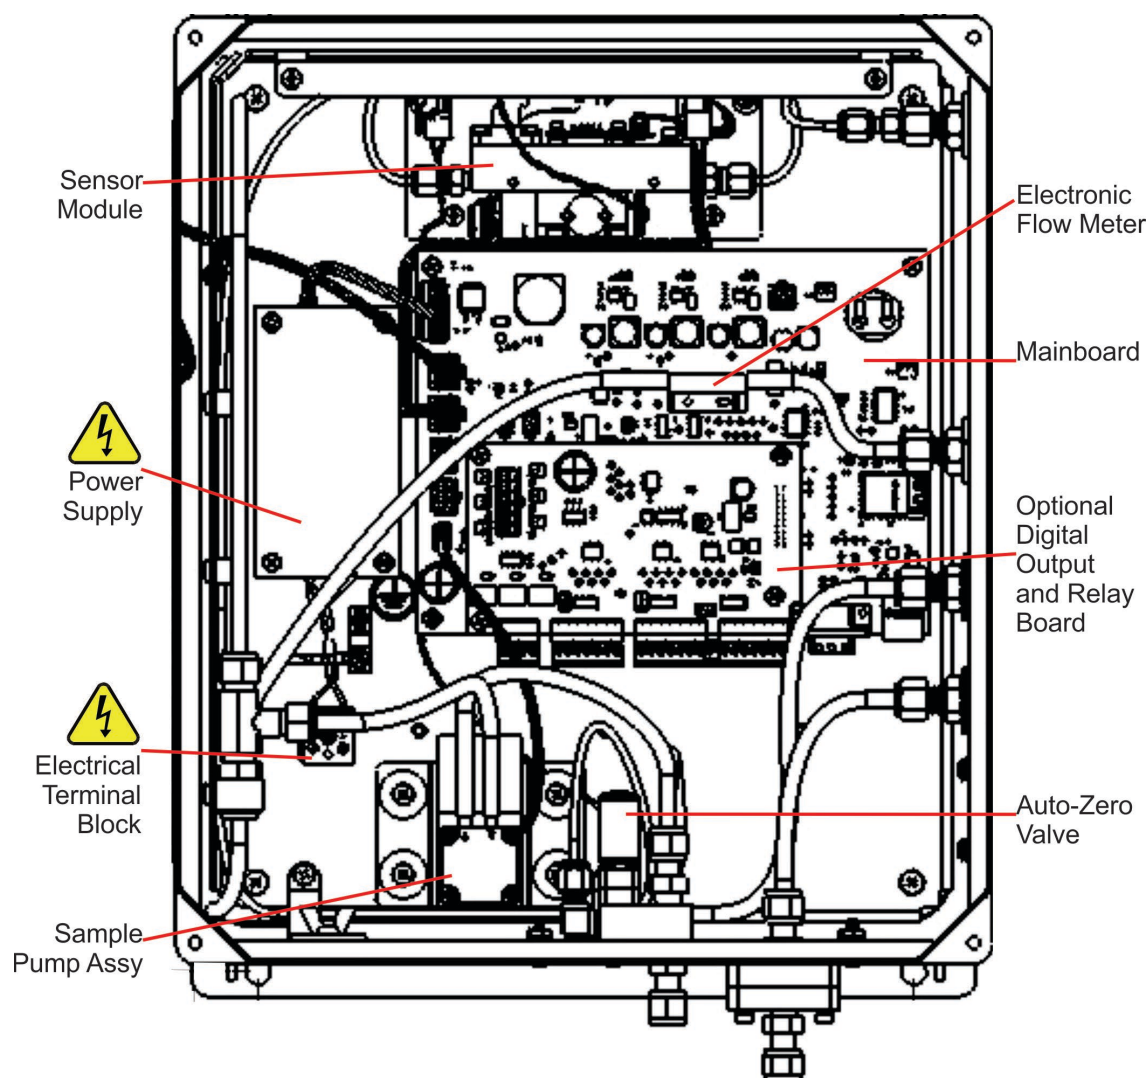

Figure 7-1. Instrument Layout
Figure 7-1 shows the internal layout of the 480M. These figures will be referenced in the procedures that follow.
2. Open front panel and locate sample pump assembly (See Figure 7-1).
3. Locate the auto-zero valve (See Figure 7-1).
7. Remove the two (2) mounting screws using a #2 Phillips screwdriver. Note that there are four screw heads visible on the top of the valve body, only two (2) of these should be removed. Use the new valve as a reference to determine which two screws need to be removed.